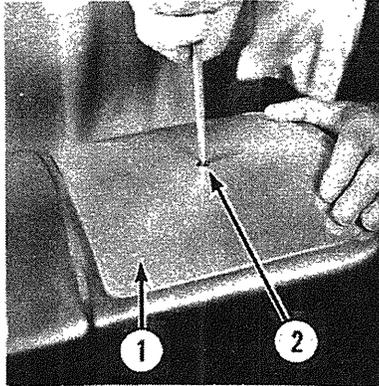

Fig. 3-1
- A. The housing cover (1, Fig. 3-1) prevents dust and other outside materials from settling on the transmission. Remove the screw (2, Fig. 3-1), lift off the cover and set aside.